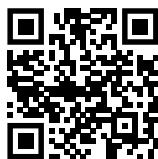

Fig. 125
► Open Liebherr SmartMonitoring Dashboard. (see Fig. 125)